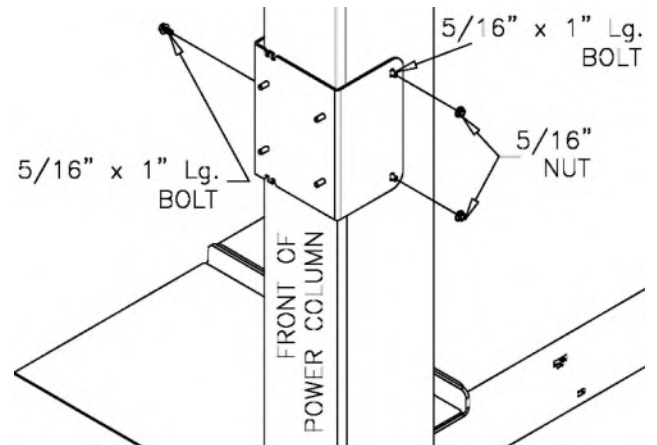

Fig 23 – Power Unit Bracket
- 41) **POWER COLUMN ONLY** – To install the Power unit, slide the Power Unit Bracket in place. On the open side of the column screw in the 5/16" x 1" flange head bolt, see **Fig 23**. Using the nuts at the top of the column to lower the lock ladder until it contacts the top of the column baseplate. Now look inside the column, the 2 upper holes for the power unit should be visible through the lock ladder window. Insert two 5/16" x 1" flange head bolts from the inside out and screw on the two 5/16 nuts. **Note:** The bracket may need to be pivoted to align the bracket holes with the column holes.